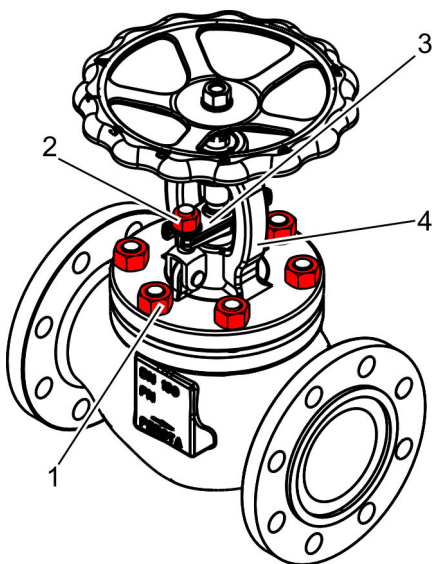

Fig. 21: Screwing on nuts
34. ➤ Loosely screw the nuts (Fig. 21/1) with the stud bolts into the body.
Tighten the nuts (Fig. 21/1) on the bonnet (Fig. 21/4) cross-wise as specified by the manufacturer.
Tighten the nuts (Fig. 21/2) on the gland follower flange (Fig. 21/3) as specified by the manufacturer.